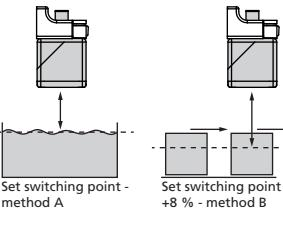

Fig. 10: Setting the switching point for different directions of movement of the object
- If the object to be scanned moves into the detection area from the side, the »Set switching point +8 %« method B« Teach-in procedure should be used. In this way the switching distance is set 8 % further than the actual measured distance to the object. This ensures a reliable switching behavior even if the height of the objects varies slightly, see Fig. 10.